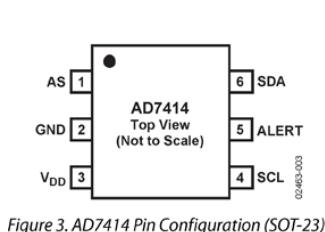

Figure 8-3: AD7414 addressing
Other I²C chips, such as the AD7414 and AD7415, have address select (AS) pins that allow you to configure the I²C address of the device. Take a look at the excerpt from the AD7414 datasheet in Figure 8-3.
As shown in Figure 8-3, the AD7414 is available in four versions, two with an AS pin and two without. The versions with AS pins can each have three possible ID numbers depending on whether the AS pin is left disconnected, is tied to VCC, or is tied to GND.